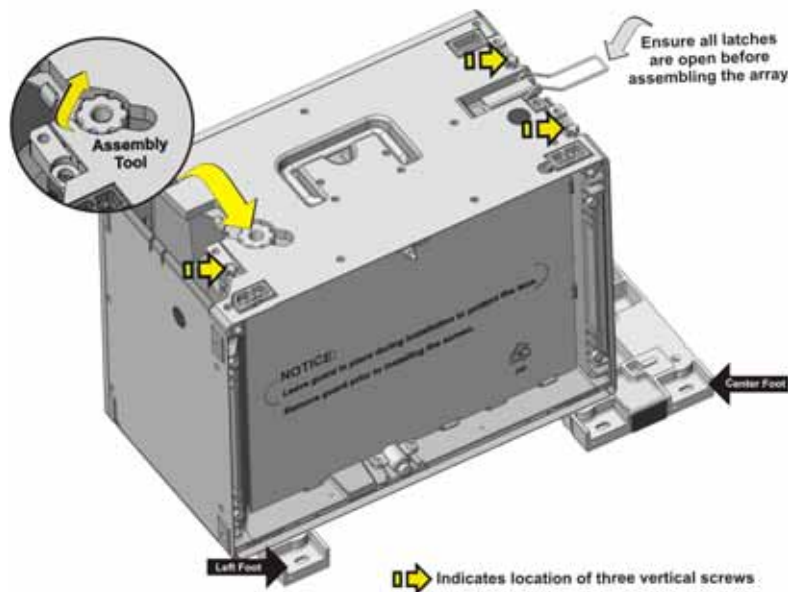

Figure 2-7 Assembly Tool and Leveling Feet
1. Ensure the latches on each tile are open before beginning (**Figure 2-7**).
2. Assemble the first tile in the array to a left and center leveling foot (**Figure 2-7**).
3. Insert the three vertical screws that are shipped with the MicroTiles into the three positions indicated in **Figure 2-7**.
4. Detach the assembly tool from the top of the MicroTiles and hand-tighten the three vertical screws to mount the tile to the feet (**Figure 2-7**). **DO NOT** completely tighten the screws at this point to allow for adjustments. **NOTICES: 1) DO NOT use power tools to tighten the vertical screws. 2) DO NOT use the vertical screws as anchors to hang the array.**